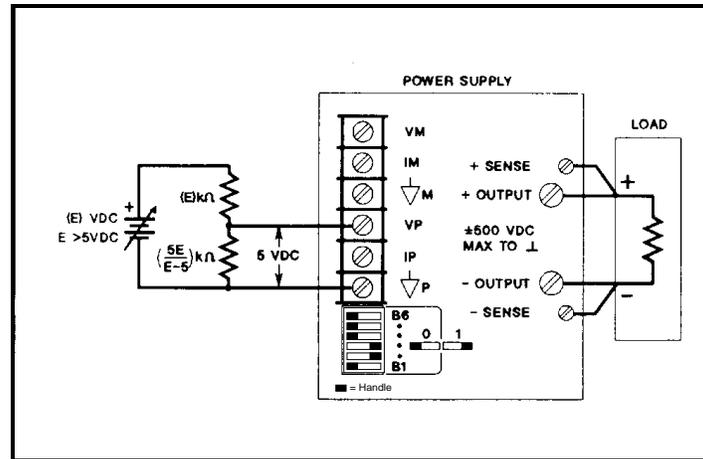

Figure 3-9. Optional Voltage Divider for Program Source
**Note:** If external resistors are used to limit the remote-programming voltage to 5Vdc, the resulting high programming-source resistance can degrade the power supply's programming speed, offset and drift performance. Limit the equivalent source resistance to 10k ohm maximum. Figure 3-9 shows a convenient way to calculate suitable voltage-divider resistance values for a 5k ohm source resistance.